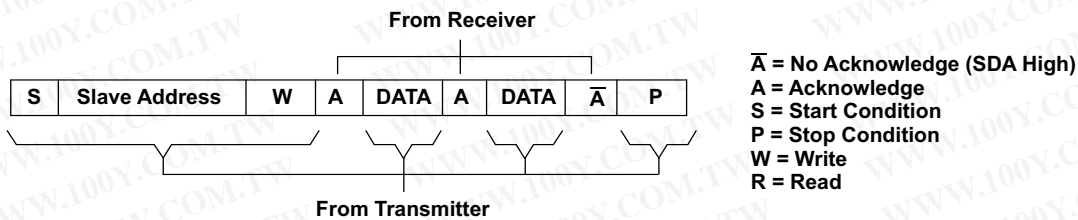
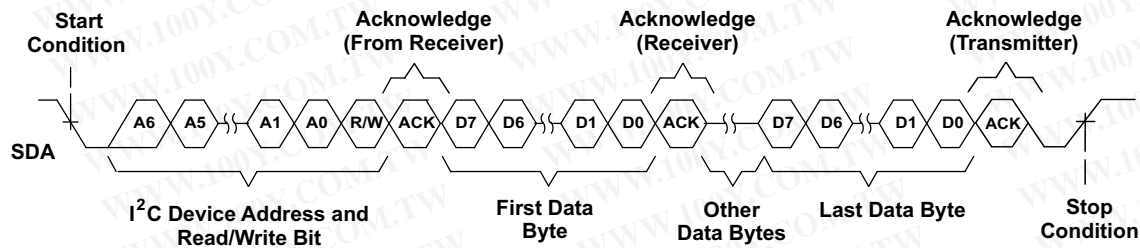
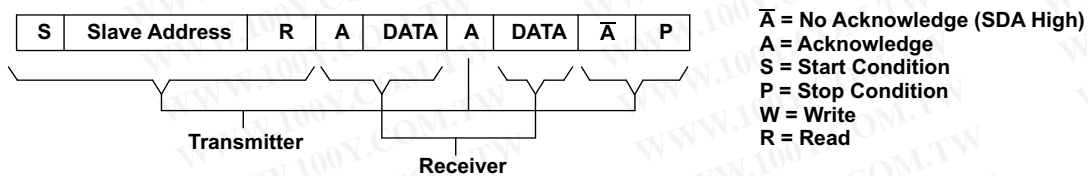
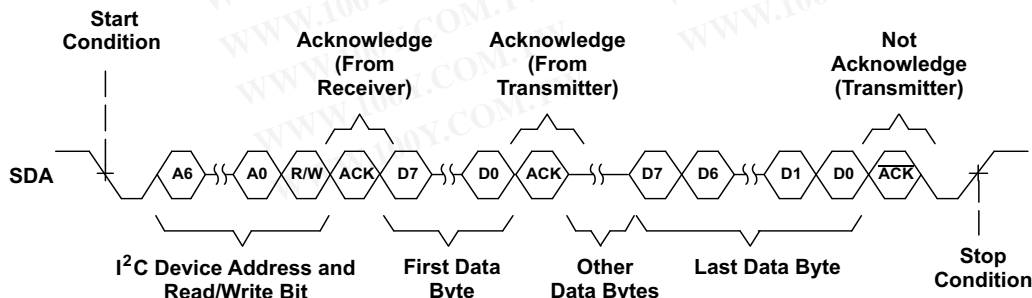

Figure 74. I²C Write Cycle
Figure 75. Multiple Byte Write Transfer
Figure 76. I²C Read Cycle
Figure 77. Multiple Byte Read Transfer
During a write cycle, the transmitting device must not drive the SDA signal line during the acknowledge cycle, so that the receiving device may drive the SDA signal low. After each byte transfer following the address byte, the receiving device pulls the SDA line low for one SCL clock cycle. A stop condition is initiated by the transmitting device after the last byte is transferred. An example of a write cycle can be found in Figure 74 and Figure 75. Note that the THS7353 does not allow multiple write transfers to occur. See example section –Writing to the THS7353 for more information.
During a read cycle, the slave receiver acknowledges the initial address byte if it decodes the address as its address. Following this initial acknowledge by the slave, the master device becomes a receiver and acknowledges data bytes sent by the slave. When the master has received all of the requested data bytes from the slave, the not acknowledge (A) condition is initiated by the master by keeping the SDA signal high just before it asserts the stop (P) condition. This sequence terminates a read cycle as shown in Figure 76 and Figure 77. Note that the THS7353 does not allow multiple read transfers to occur. See example section –Reading from the THS7353 for more information.
The THS7353 operates using only a single byte transfer protocol similar to Figure 74 and Figure 76. The internal subaddress registers and the functionality of each are found in Table 2. When writing to the device, it is required to send one byte of data to the corresponding internal subaddress. If control of all three channels is desired, then the master has to cycle through all the subaddresses (channels) one at a time, see the example section –*Writing to the THS7353* for the proper procedure of writing to the THS7353.